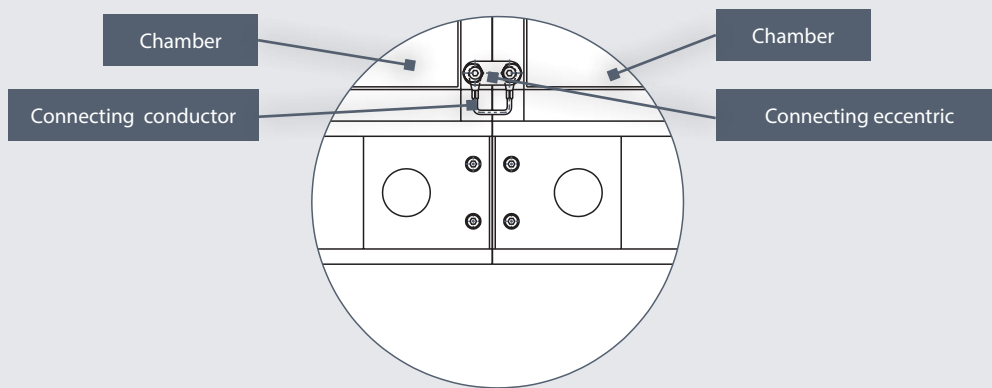

Fig. 1.6.: Conductive connecting of the chambers (in case of lacquered unit)
- If the units are lacquered, you shall make conductive bonding of the chambers (Figure 1.6).